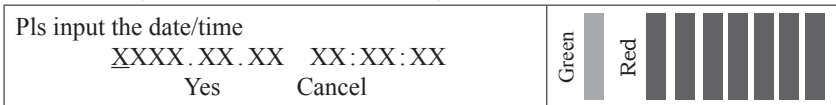

Fig. 8
- (1) Select “Time set” on parameter setting interface for confirmation, and go into time setting interface, as shown in Fig. 8.